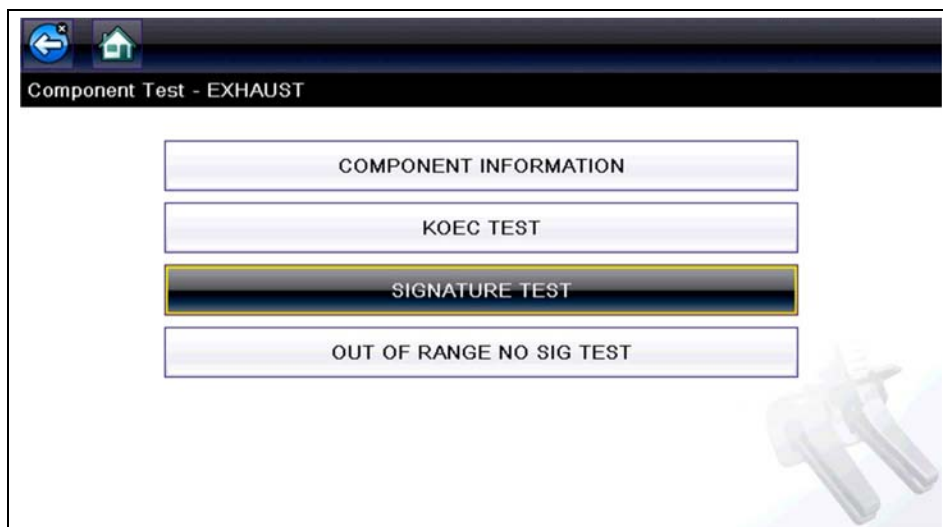

Figure 8-8 Component Test Menu
2. Select a **Test** from the Component Test menu (Figure 8-8).